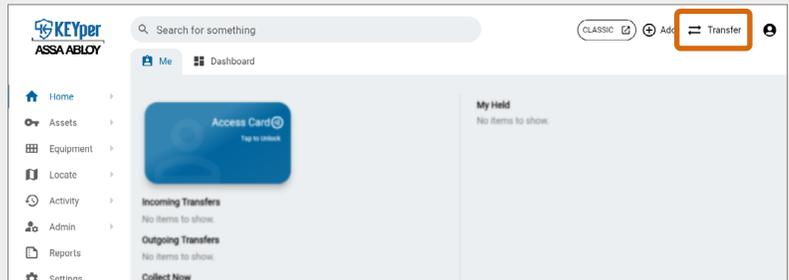

Fig. 116 – Home Menu with Transfer button indicated (KEYper GO Web)
- 🔑 In KEYper GO Web, the **Transfer** button is in the upper right area of the screen, as shown in Fig. 116.